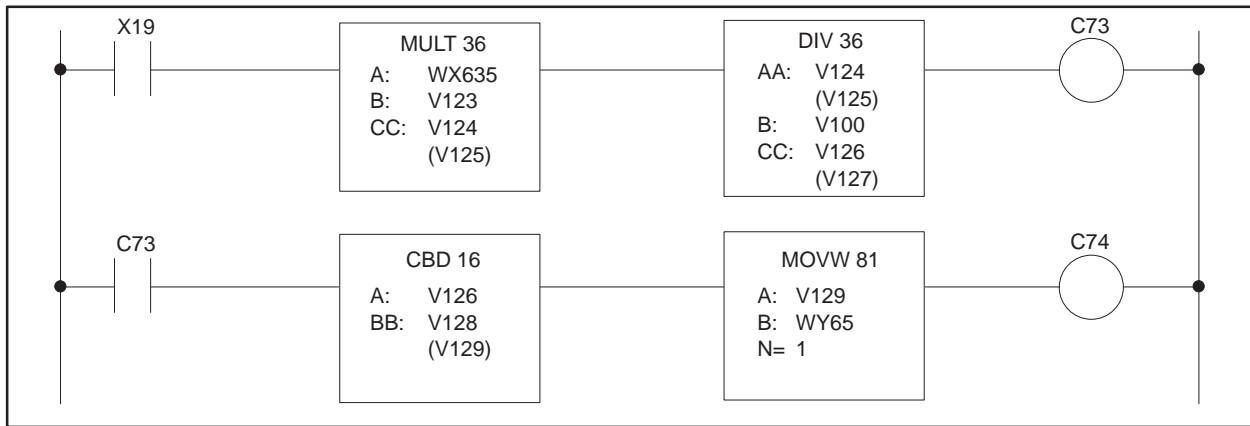

Figure E-22 RLL for CBD Application Example
**Explanation** The RLL in Figure E-22 does the function that follows.